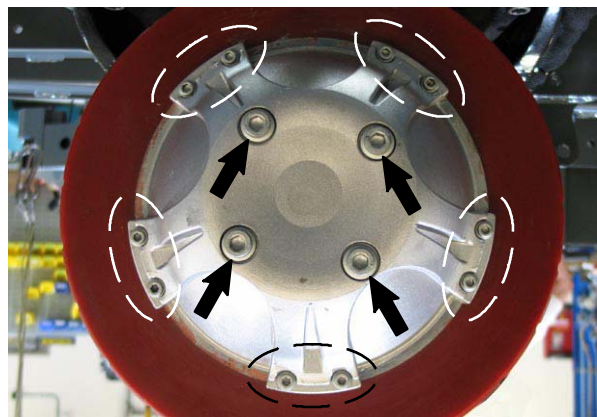

FIG. 1
1. Remove the four large socket screws from the front wheel assembly. Set the socket screws aside. (Fig. 1)
- Remove the wheel cover from the front wheel. Set the ten socket screws and wheel cover aside. Discard the removed front wheel. (Fig. 1)
- Use the ten small socket screws to install wheel cover onto the new front wheel (1). (Fig. 1)
- Install the front wheel (1) onto the front wheel assembly. Align the four holes in the wheel cover / front wheel and use the four large socket screws to secure the front wheel to the front wheel assembly. (Fig. 1)